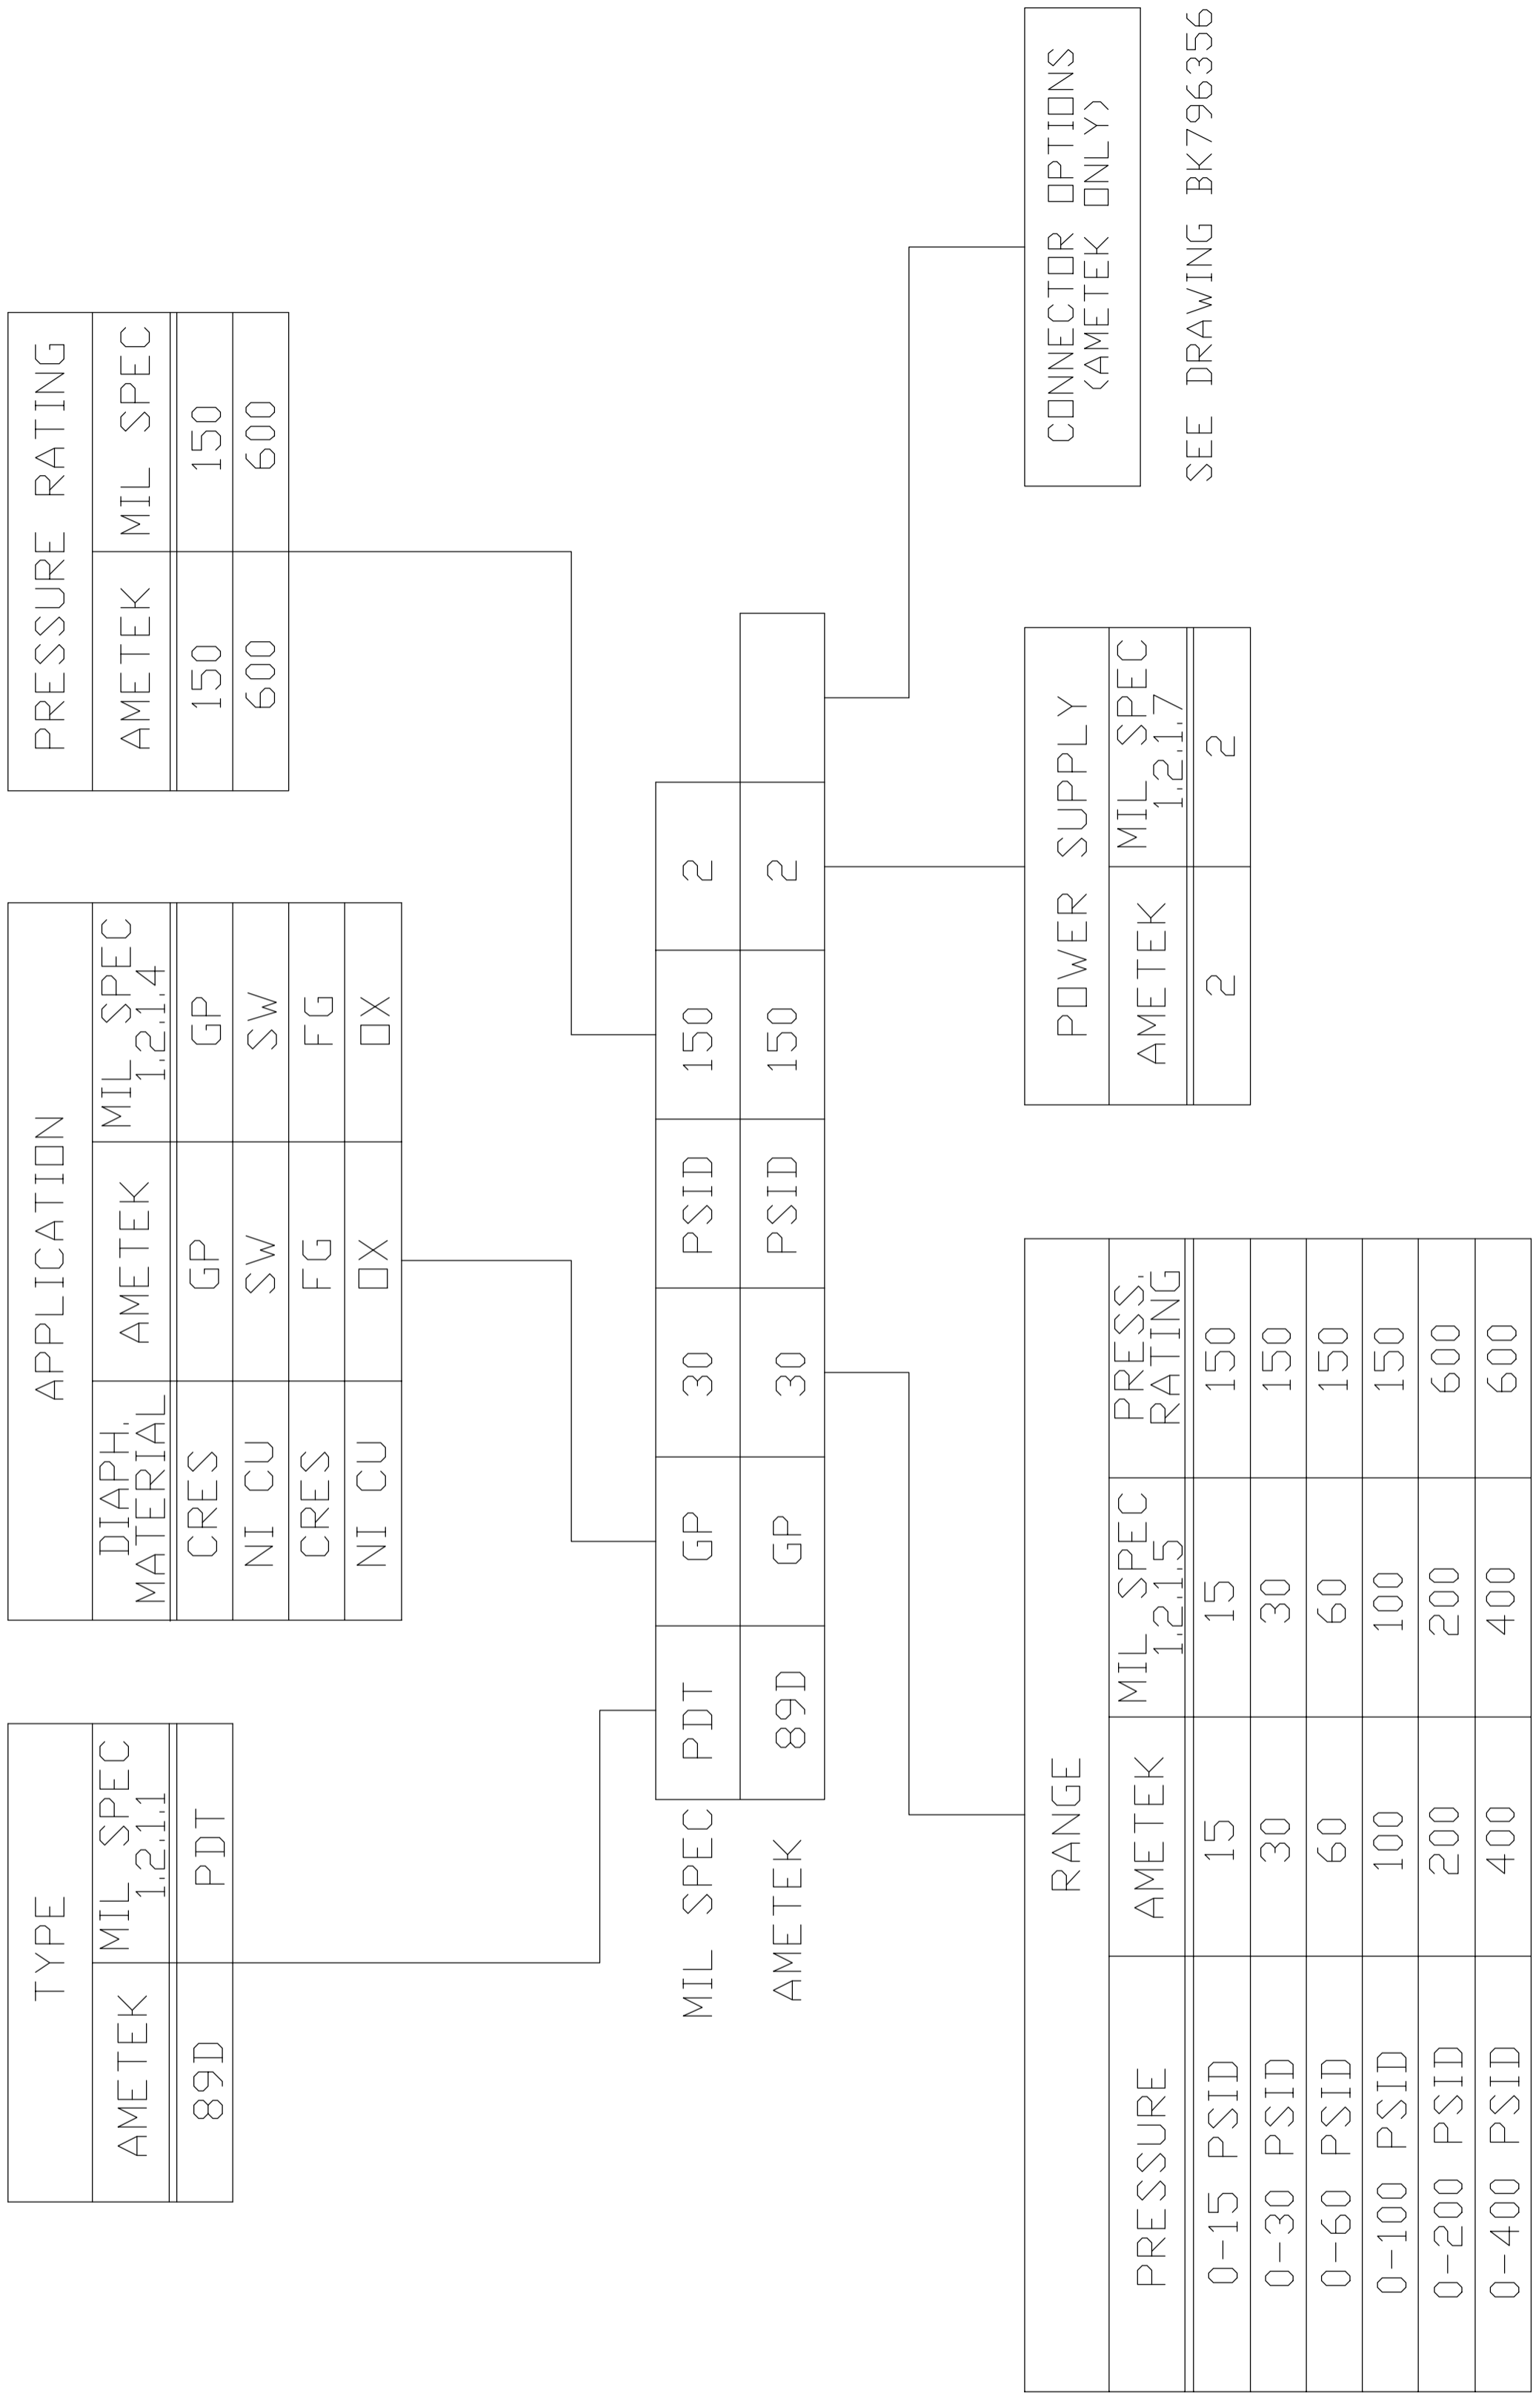

FIGURE 1-2. MODEL DESIGNATION
1-3.1 The differential pressure transducers are available in PSID pressure ranges of 0-15 psi to 0-100 psid with line pressure rating of 150 psi and 0-200 to 0-400 psid with line pressure ratings of 600 psi (Fig. 1-2). The differential pressure transducer conform to the requirements of MIL-D-24304B(SH) including amendments.